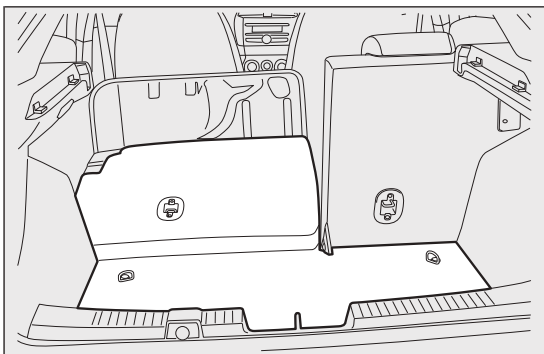

fig. 75
**Partial extension (1/3 or 2/3) Fig. fig. 74-fig. 75**